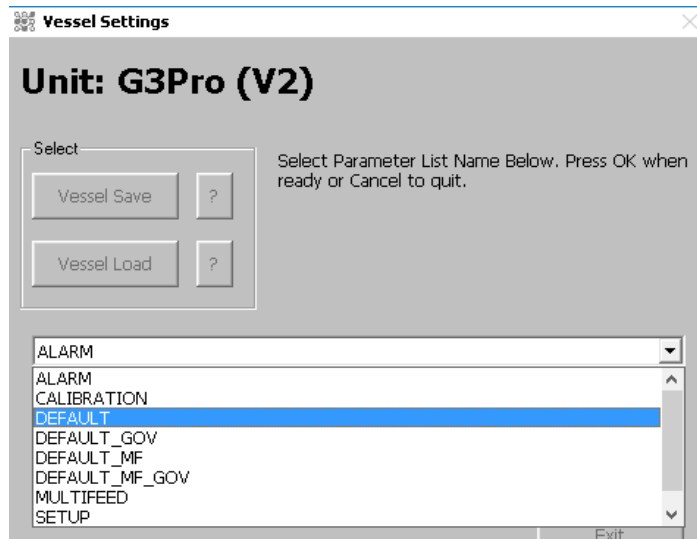

Figure 4.77. Choose “Setup” from menu after clicking “Vessel Save.”
2. Click **Vessel Save** and then select **Setup** from the drop-down menu. Select a name according to facility protocol and then click **Save** (Figure 4.77).